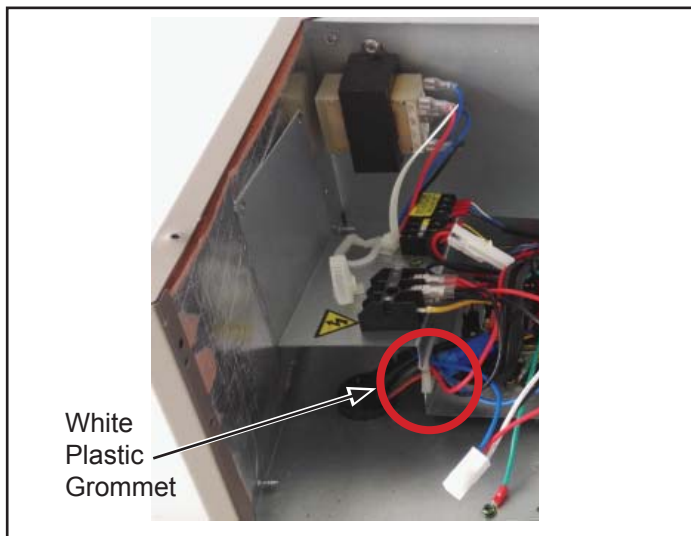

Figure 7. Route Wiring Through Grommet
- Route wiring under main control board and terminal strip assembly and through the white plastic grommet. See figure 7.